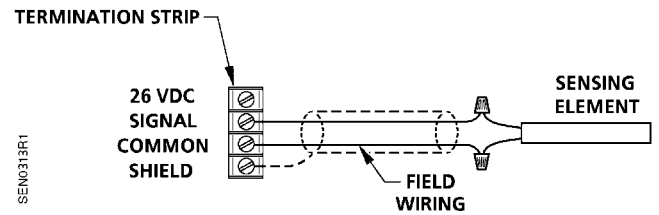

Figure 4. Wiring the Sensor to the Controller.
6. Connect the field wires to the controller. See Figure 4.